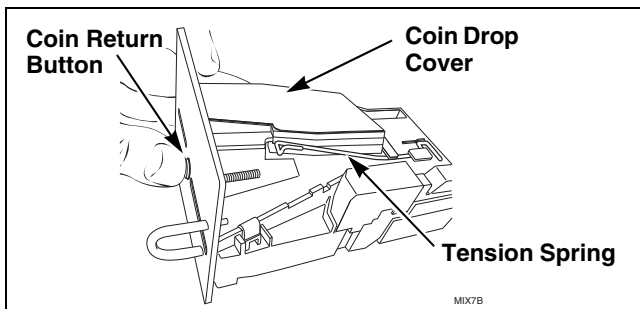
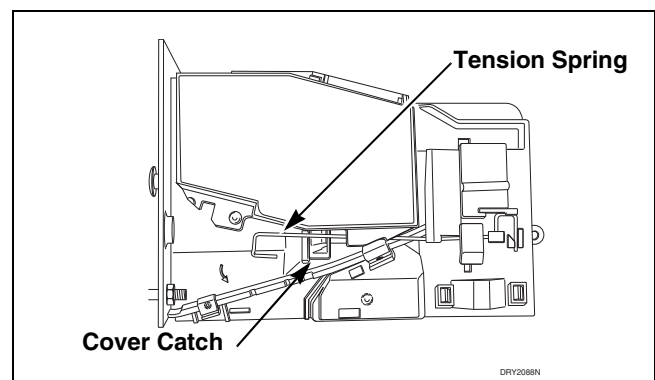
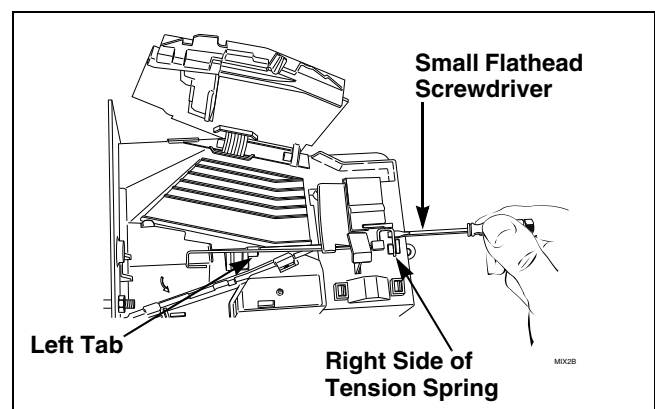

Figure 2
Figure 4
Figure 5
- (1) Clean coin drop. Refer to *Paragraph 40*.
- (2) On electronic coin drops with an old-style tension spring (shown in *Figure 2* and *Figure 4*), test and replace tension spring using the following instructions.
- (1) Push coin return button to open and close coin drop cover to clear possible coin jams. Refer to *Figure 2*.
- (1) Move tension spring downward until cover catch is free. Refer to *Figure 4*.
- (2) Open cover for coin drop.
- (3) Place a small flathead screwdriver under right side of tension spring and lift up. Refer to *Figure 5*.
- (5) Lift spring over left tab. Refer to *Figure 5*.
- (1) Reinstall coin drop into machine.
- (2) Reconnect electrical power to machine and drop.
- (3) Add a coin to drop to verify that coin drop is operating properly and that electrical connection is working properly.
- (13) Lift spring gently to place in position under left tab.
- (14) Push spring to right until it snaps into position. Refer to *Figure 5*.
- (15) Close coin drop cover.
- (16) Move tension spring over cover catch. Refer to *Figure 4*.